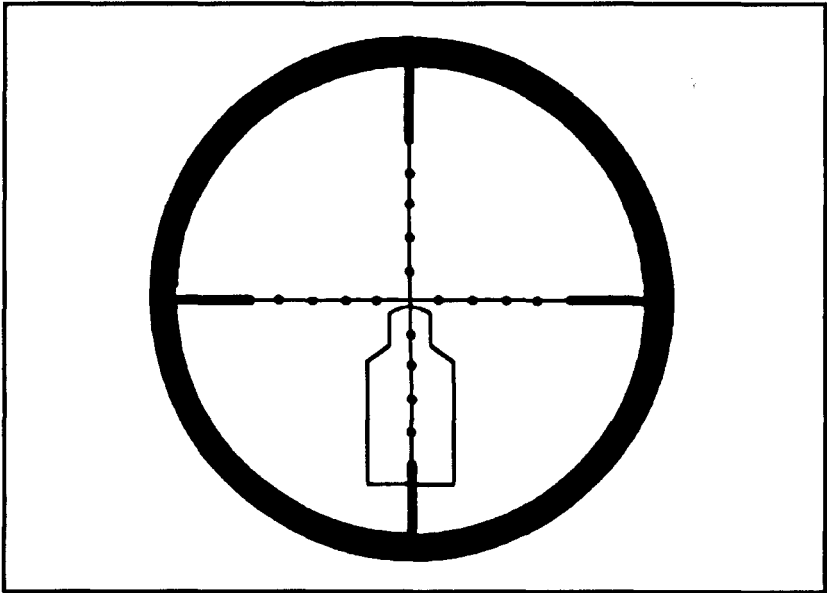

Figure 3-24. Elevation.
a. The sniper uses holdoff to hit a target at ranges other than the range for which the rifle is presently adjusted. When the sniper aims directly at a target at ranges greater than the set range, his bullet will hit below the point of aim. At lesser ranges, his bullet will hit higher than the point of aim. If the sniper understands this and knows about trajectory and bullet drop, he will be able to hit the target at ranges other than that for which the rifle was adjusted. For example, the sniper adjusts the rifle for a target located 500 meters downrange and another target appears at a range of 600 meters. The holdoff would be 25 inches, that is, the sniper should hold off 25 inches above the center of visible mass in order to hit the center of mass of that particular target (Figure 3-24). If another